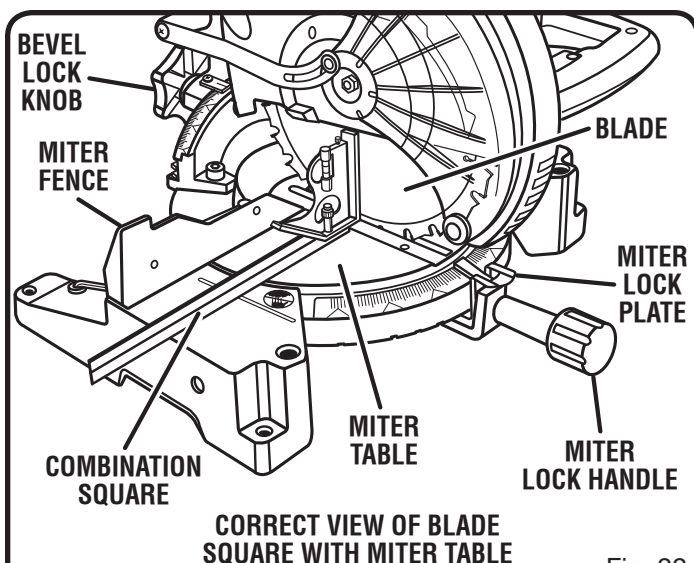

Fig. 22
See Figures 22 - 24.
- The edge of the square and the saw blade should be parallel as shown in figure 22.